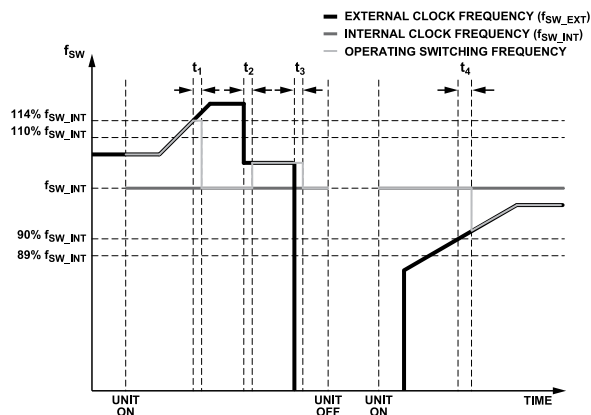

Figure 15. Synchronization Operation
2. If all periods of the most recent 64 consecutive cycles of the external clocks fall within 90% to 110% of the internal switching clock period, the ADP1050 uses the latest current cycle as the synchronization reference, and the period of the external clock is identified. This interval is  $t_2$  or  $t_4$ , as shown in Figure 15. Otherwise, the ADP1050 discards this cycle and looks for the next cycle (frequency capture mode).
5. If the external clock signal is lost at any time, or if the period exceeds the minimum limit (89% of the internal programmed frequency) or the maximum limit (114% of the internal programmed frequency), the ADP1050 takes the last valid external clock signal as the synchronization reference source. At the same time, the phase shift between the synchronization reference and the internal clock is detected. When the phase shift falls within the phase capture range, the PWM clock returns to the internal clock set by the internal oscillator. This interval is  $t_1$  or  $t_3$ , as shown in Figure 15. This is the first synchronization unlock condition, called Synchronization Unlocked Mode 1, in which the switching frequency is out of range (range is 89% to approximately 114% of the internal programmed frequency).
Figure 15 shows the synchronization operation diagram. The internal frequency,  $f_{SW\_INT}$ , is the internal free-running frequency of the ADP1050. Before the synchronization is locked, the ADP1050 runs at  $f_{SW\_INT}$ . The external frequency,  $f_{SW\_EXT}$ , is the frequency of the external clock to which the ADP1050 must synchronize. After synchronization is locked, the ADP1050 runs at  $f_{SW\_EXT}$ .